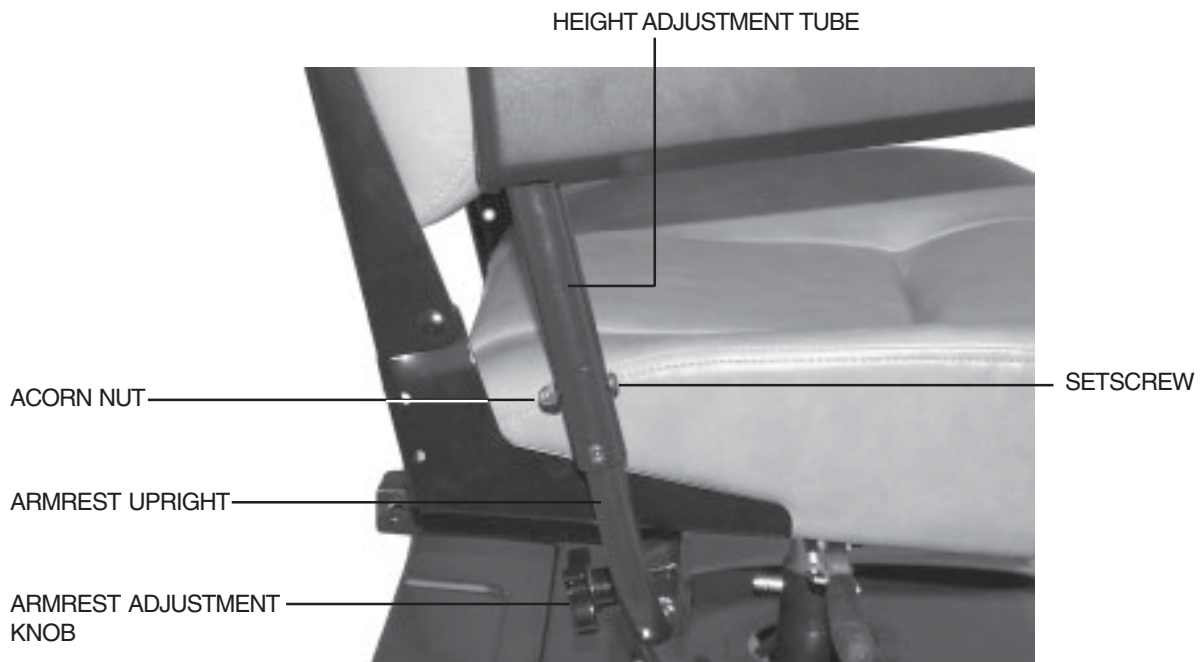

FIGURE 16. ARMREST ADJUSTMENTS
1. Loosen the armrest adjustment knobs at the back of the seat frame. See figure 16.
Refer to figure 16 when adjusting the armrest height.
1. Loosen the setscrew on the side of the height adjustment tube with the 1/8" hex key. See figure 16.